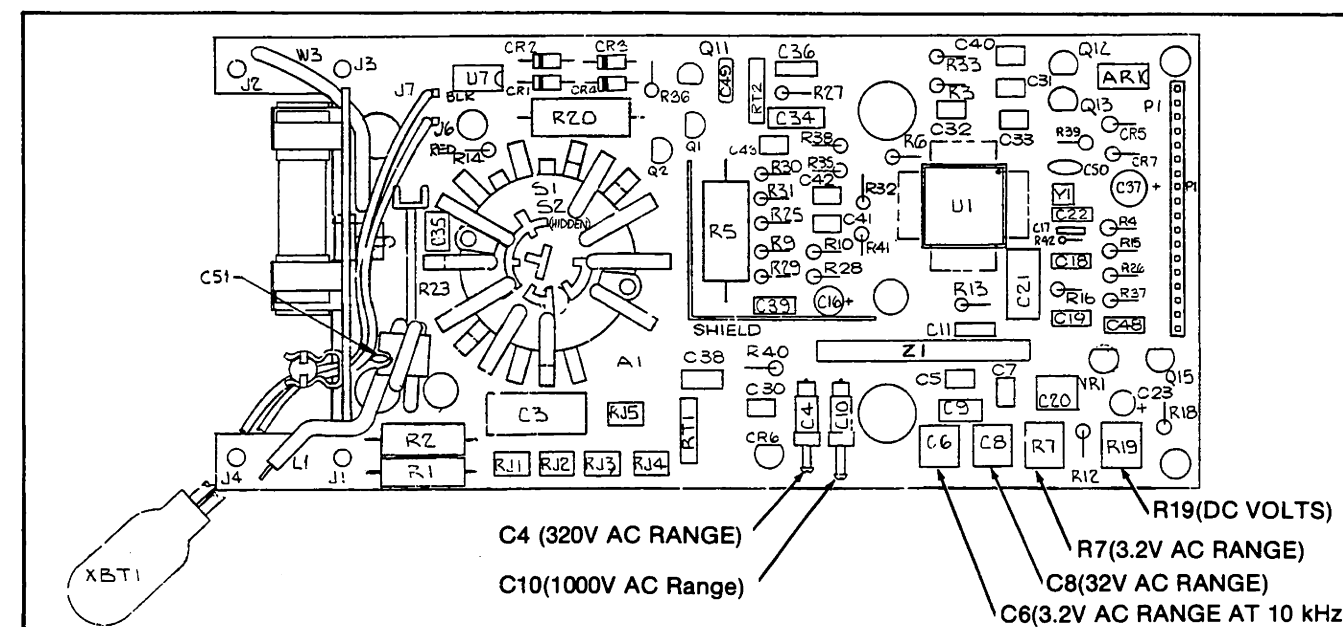

Figure 3-4. Calibration Adjustment Locations
1. Connect the DMM Calibrator to the UUT volts/ohms/diode-test input terminal and common. Refer to Figure 3-4 for calibration component locations.
2. Select the dc voltage function (V) on the UUT.